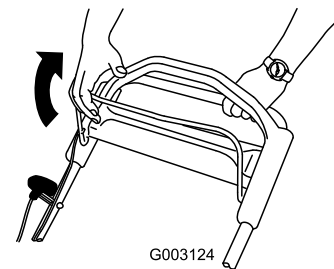

Figure 20
2. Pull the blade control bar to the handle (Figure 20).